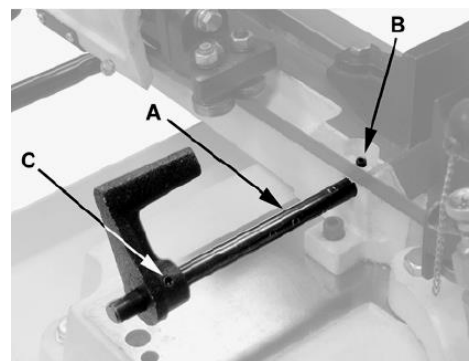

Fig 6
Insert the stop rod (A, Fig 6) into the bed and tighten the set screw (B).